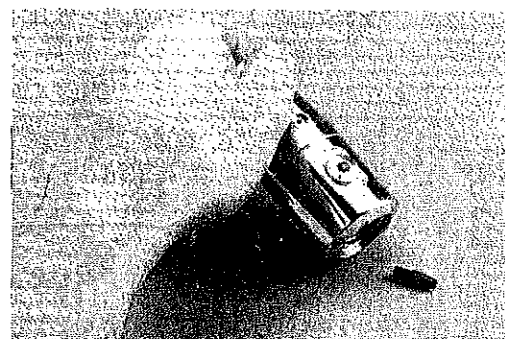

Fig. 8B
- 8a. Before proceeding, examine the new swivel retainer(34) to determine whether it requires the use of a 3/16" hex drive socket or an 11/16" nut drive socket. Install the appropriate socket onto a self limiting, inch-pounds, ratchet drive torque wrench. Preset the wrench to a torque of 96-120 inch-pounds (or 8-10 foot pounds), and keep it nearby at the ready as you perform the following steps:
- 8b. Lubricate and install the swivel o-ring(38) onto the swivel cap(39). Lay the swivel washer(37) flat onto the base of the swivel.
- 8c. Place the washer(35) onto the swivel retainer, and insert the threaded male end of the swivel retainer through the open cavity of the piston cap(36). Ensure that it seats flush, with the male end extruding through the head of the piston cap.
- 8d. Holding the swivel retainer and piston cap together between thumb and forefinger, apply one drop only of medium strength (blue) thread adhesive to the center threads of the swivel retainer. (See fig. 8B.) Very quickly, mate the piston cap and swivel retainer onto the swivel cap, so that the threads seat properly. Immediately hand tighten in a clockwise direction as snug as possible.